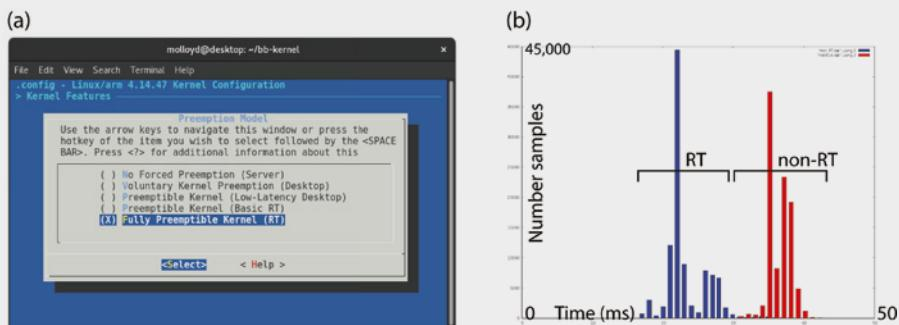

Figure 7-14: (a) The PREEMPT_RT menuconfig option, (b) the results histogram of the cyclictest with an RT and non-RT kernel
- In the Kernel Features menu you can alter the preemption model (see Figure 7-14(a)).
The latest BeagleBoard Linux distributions include images that have the PREEMPT_RT patch applied. Typically, the PREEMPT_RT patch is downloaded from www.kernel.org/pub/linux/kernel/projects/rt/ as a .gz file and applied to the exact kernel version that is being built. In Figure 7-14(a), the RT patch has been applied, which results in a new option for a fully preemptible kernel in the menuconfig tool.
To develop the graph in Figure 7-14(b), the following steps were used (the second step was performed on the RT and non-RT kernels):
Figure 7-14(b) illustrates that the RT patch (Linux 4.9.88) has lower overall latency than the non-RT patch (Linux 4.14.44) but that the distribution is quite similar, which is not surprising as both kernels had a PREEMPT option set.